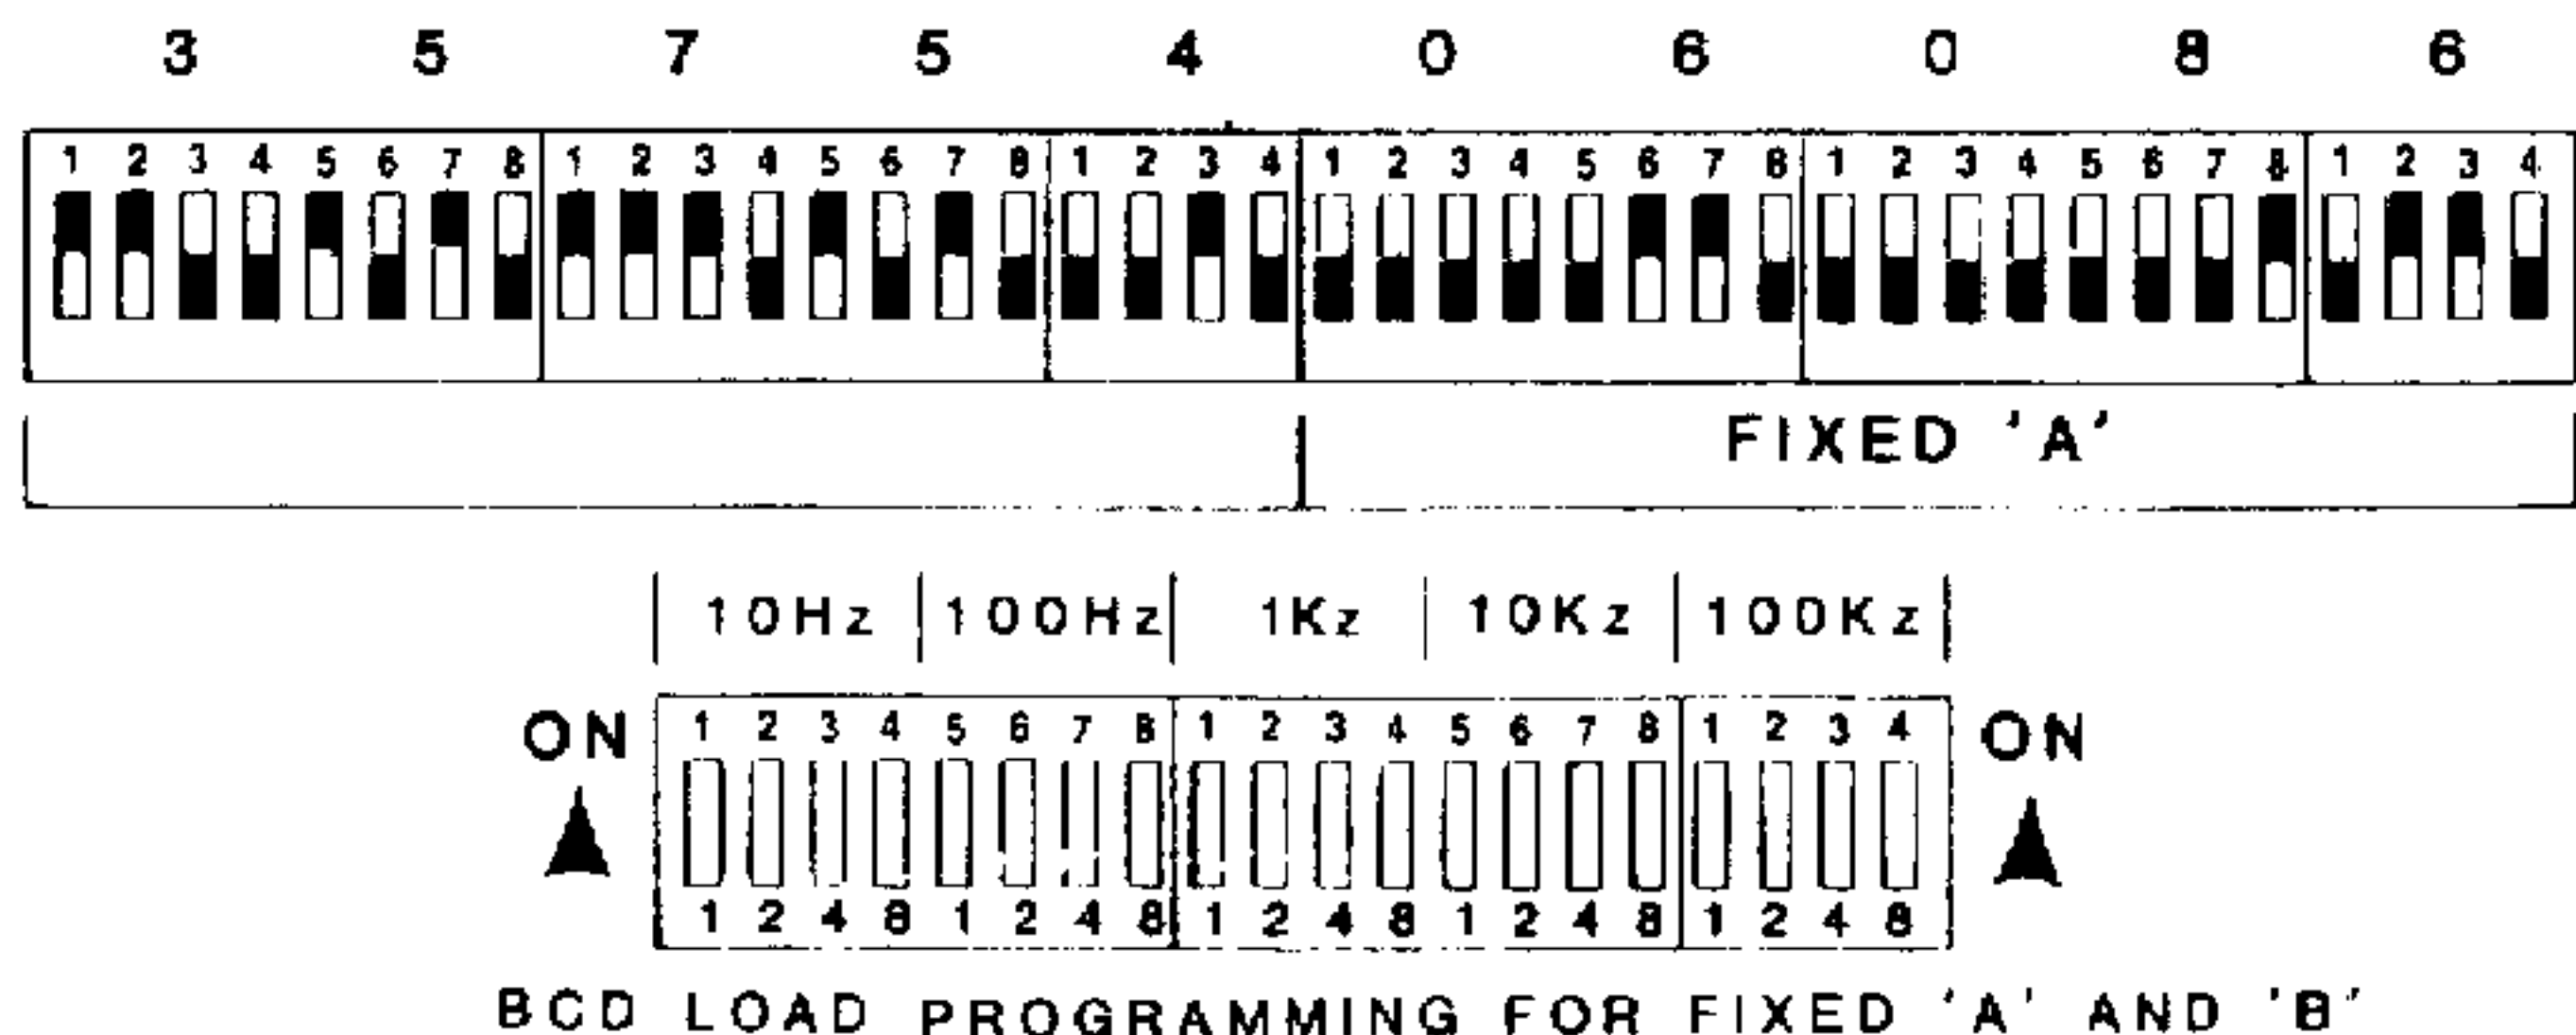

Figure 3-4 Programming For 5-Line
(1) 14345.67 USB	3615.50 CW
(2) 14000.00	3500.00
(5) 14003.20	3496.10
(11) see fig. 3-4(A)	see fig. 3-4(B)